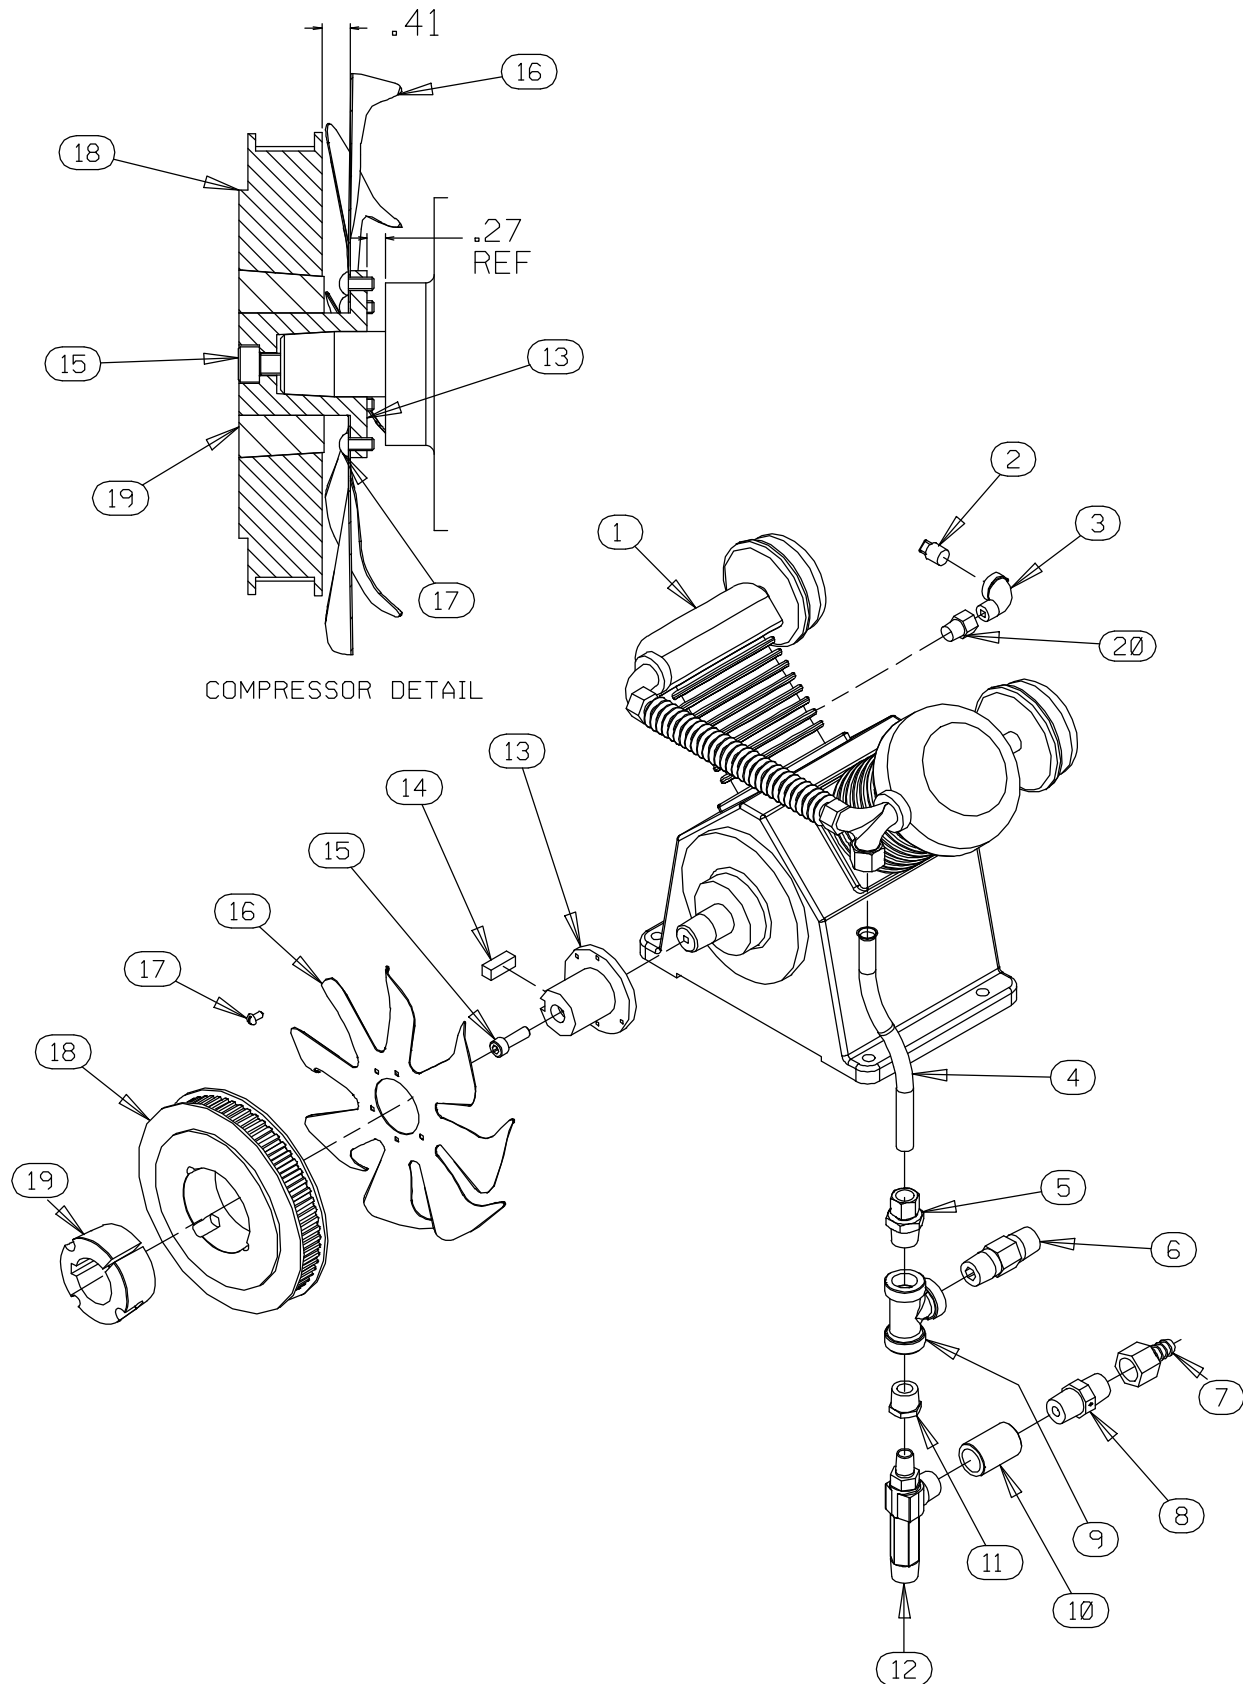

Figure 4. 46181-908 Air Compressor Assembly
Remove the hardware (10 and 30) and use a pry bar to raise the air compressor high enough to remove the spacers (42). Remove the belt (27) from the air compressor drive pulley (18, Figure 4).